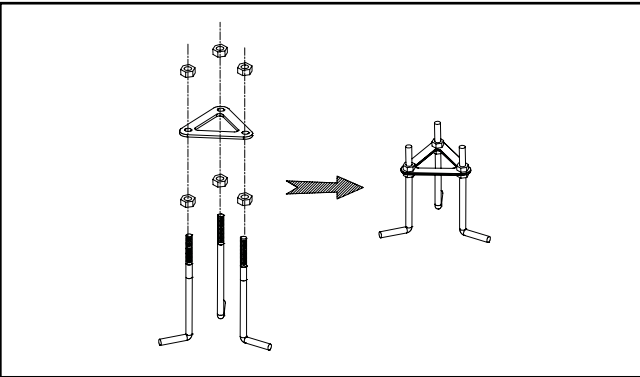

Figure 1.
1. Get the anchor bolt carrier (x1) assembled on the anchor bolts (x3) with the Nuts (x6) as shown in Fig. 1 and use it to determine placement of anchor bolts in concrete.